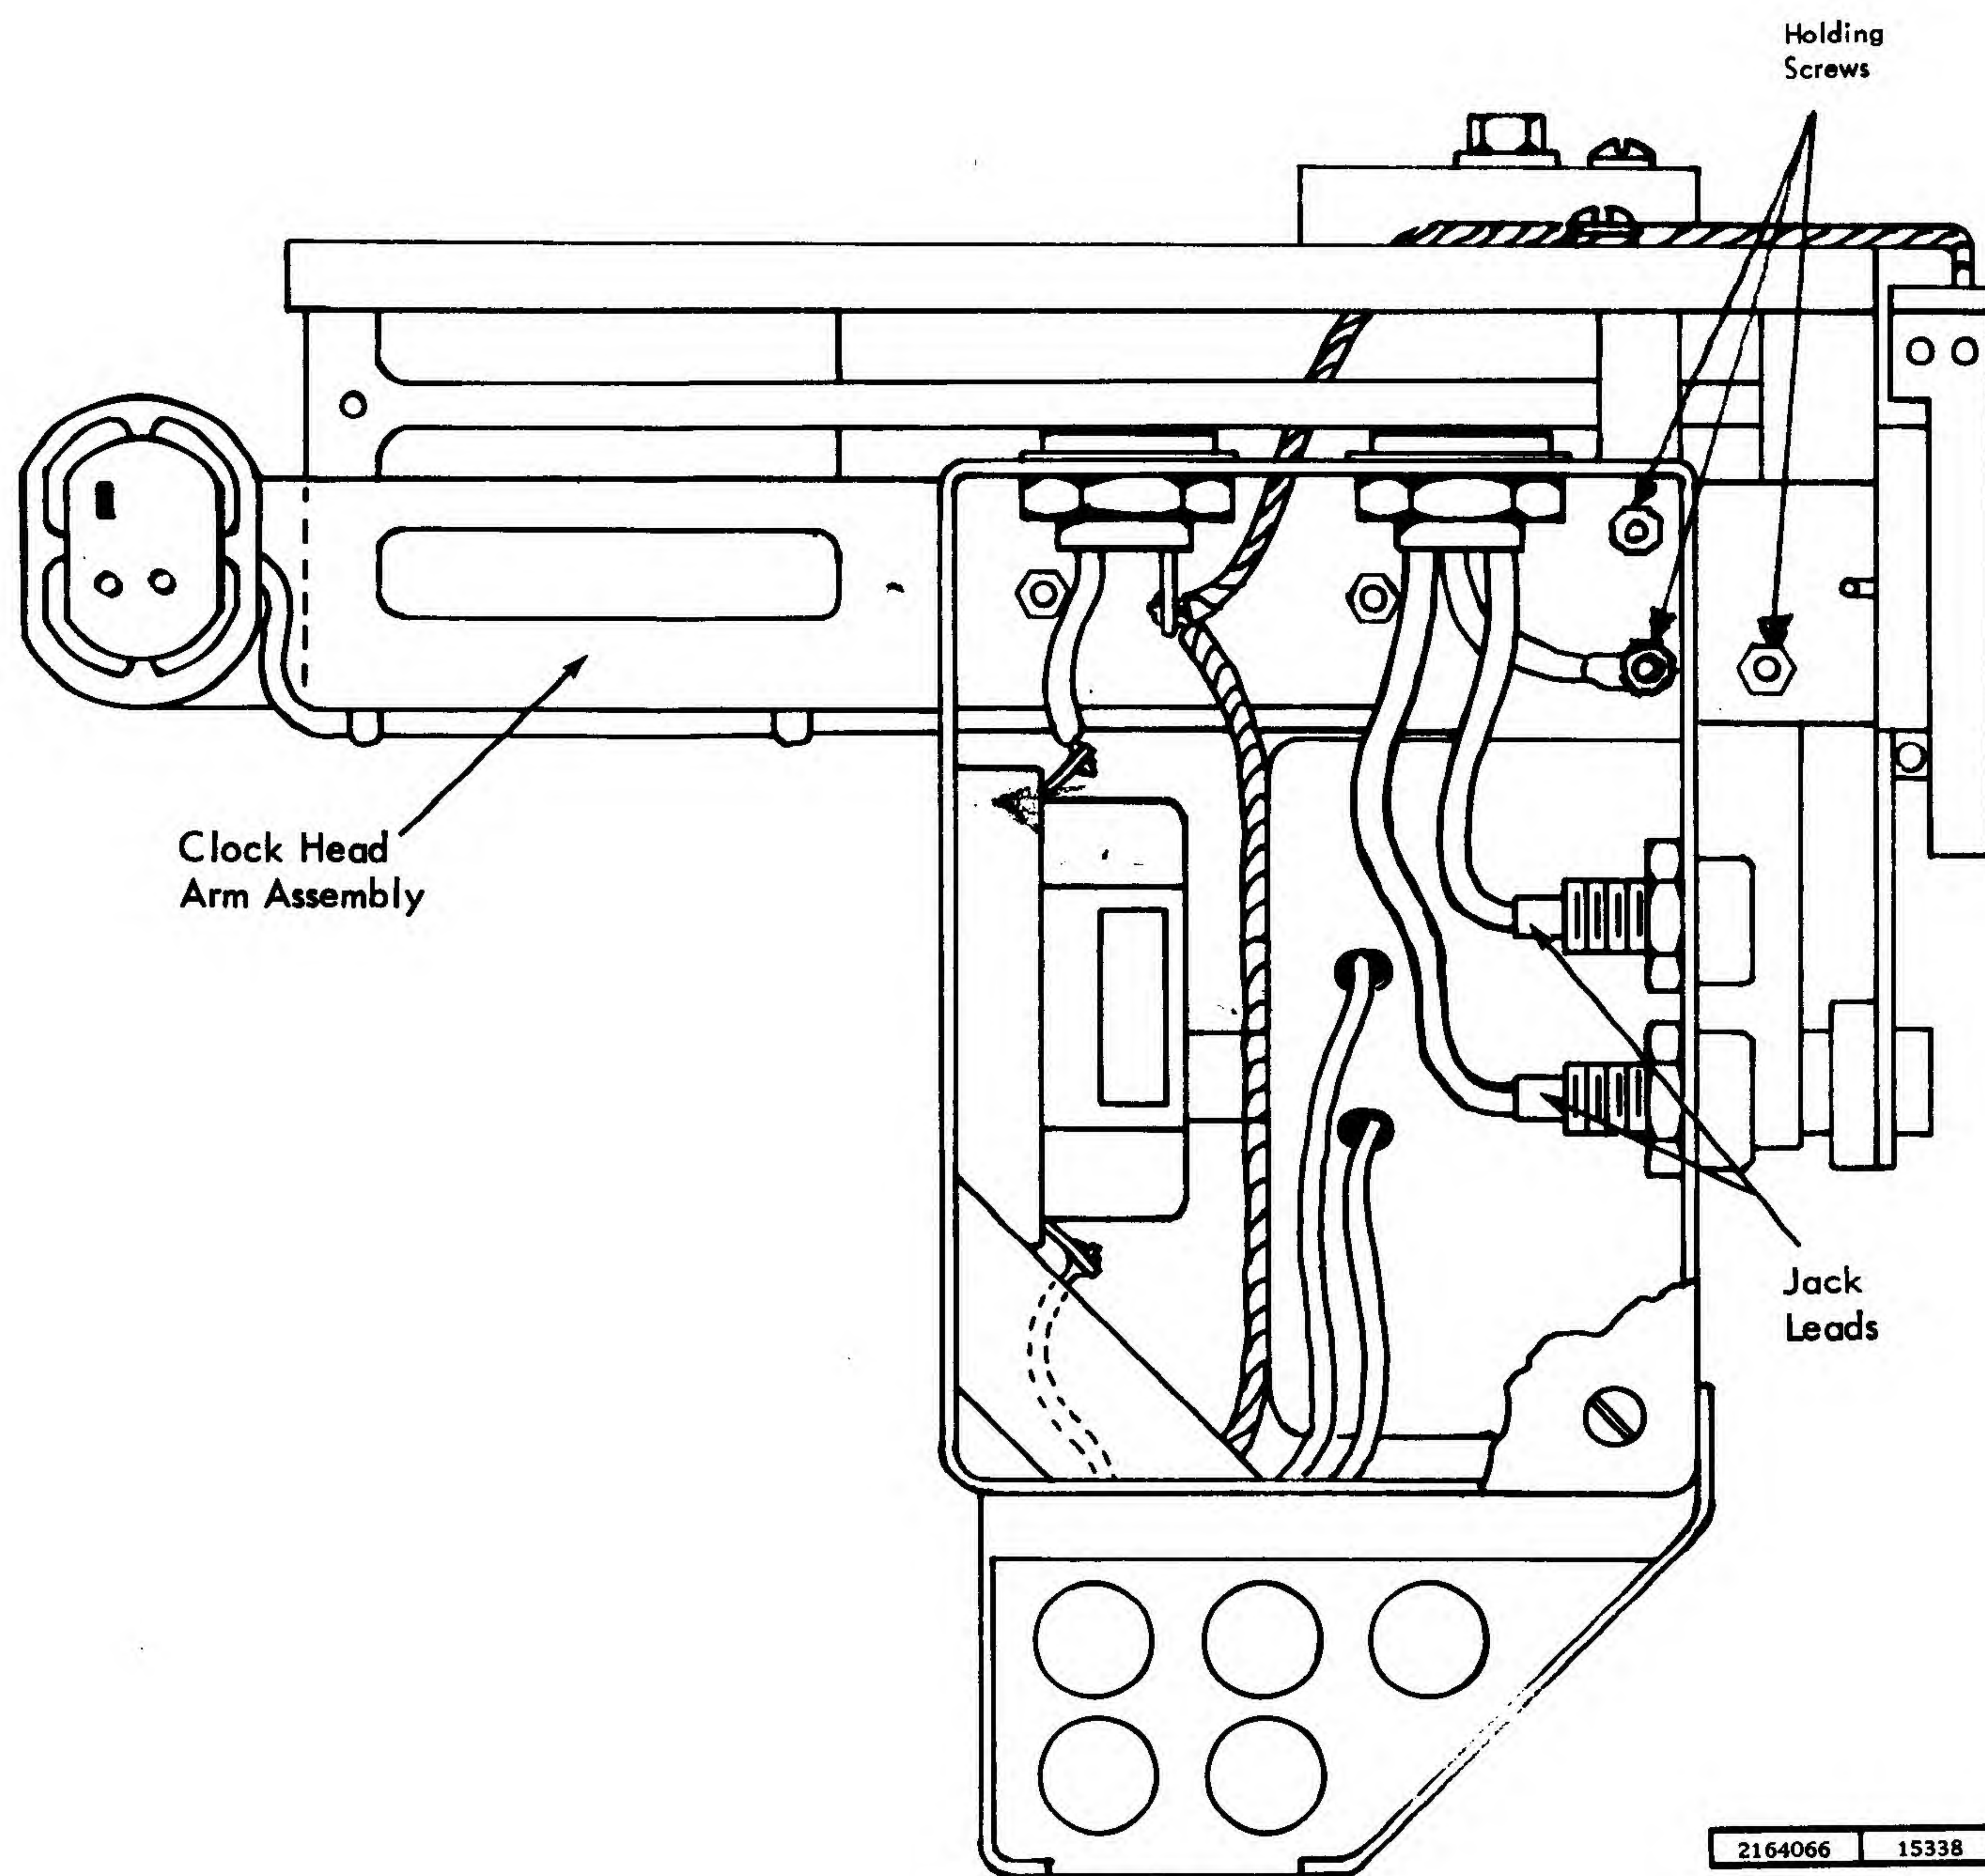

Figure 3-33 Clock Head-Arm Assembly
3.3.2 CLOCK-HEAD ARM ASSEMBLY (Figure 3-33)